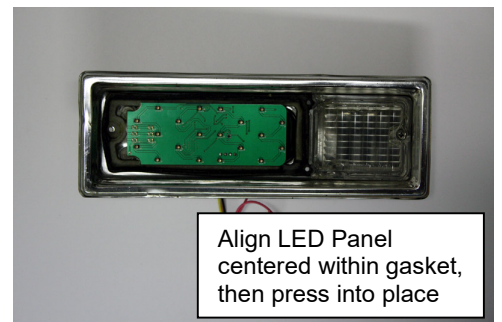

Figure 3
- 6.4. Remove the cover tape from the mounting foam on back of panel. Align the LED panel within the gasket inside the housing. (See Figure 3) When LED panel is centered properly, press into place.